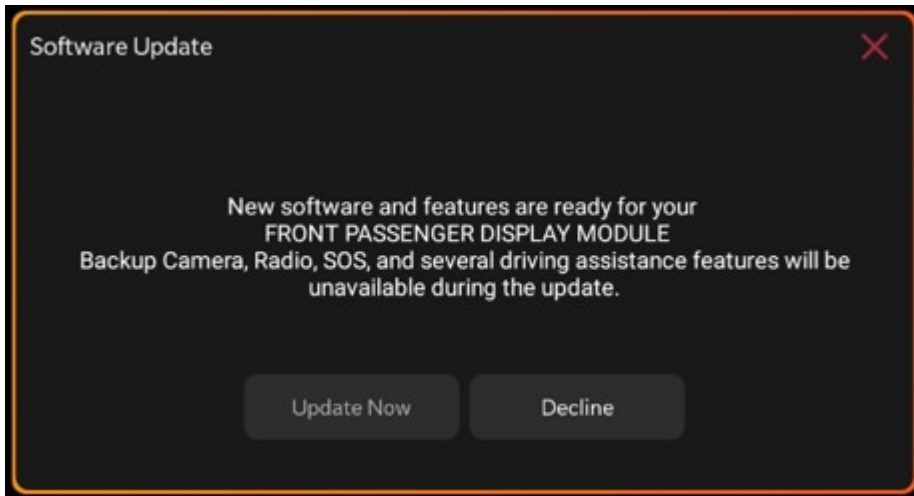
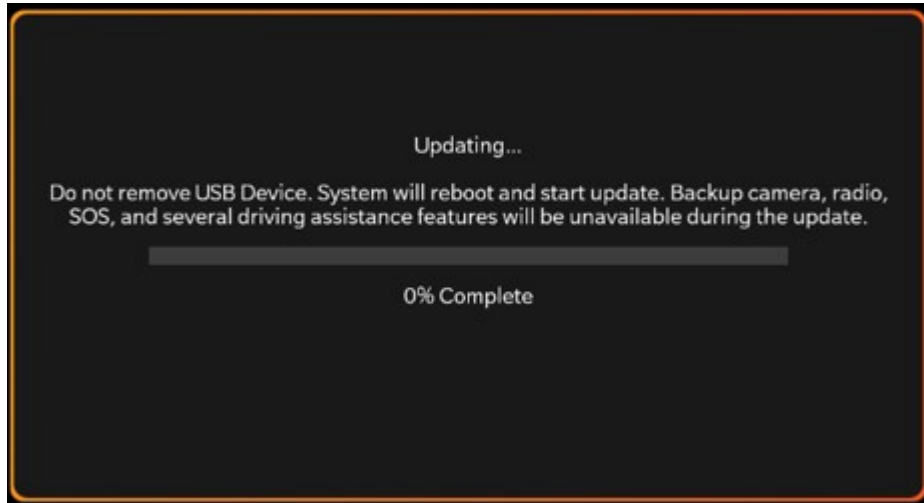

Fig. 7
Fig. 8
- 15. Accept the software update by pressing the "Update Now" soft key (Fig. 7) , (Fig. 8) .